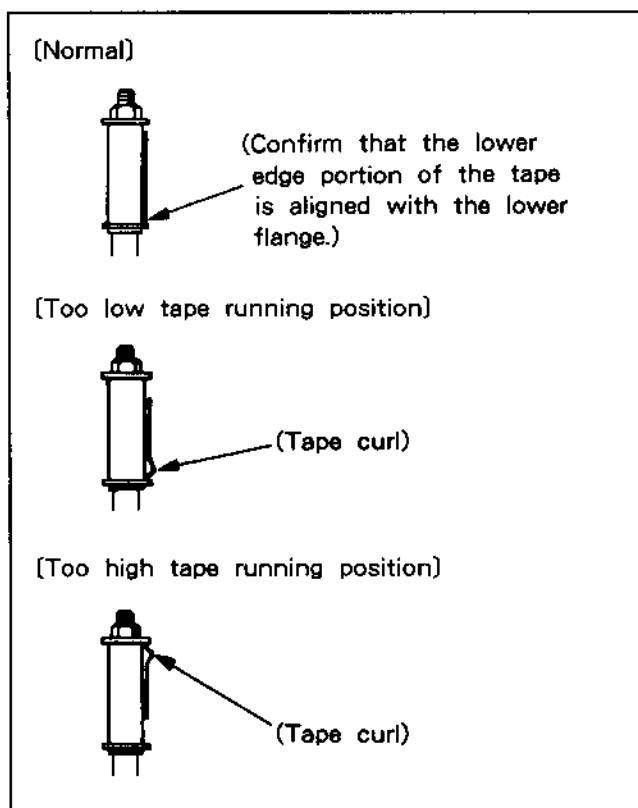

Fig. 5-4-4. Fixed Guide (S)
**5-4-3. TAPE PATH CHECK OF ENTRANCE SIDE FIXED GUIDE (S) (See Fig. 5-4-4.)**